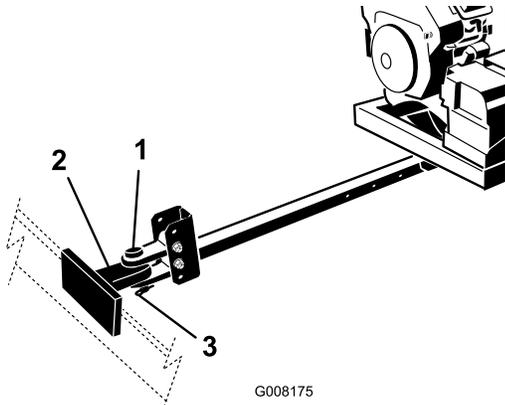

Figure 9
4. Connect the blower clevis hitch to the tow vehicle hitch with the hitch pin and clevis (Figure 9).